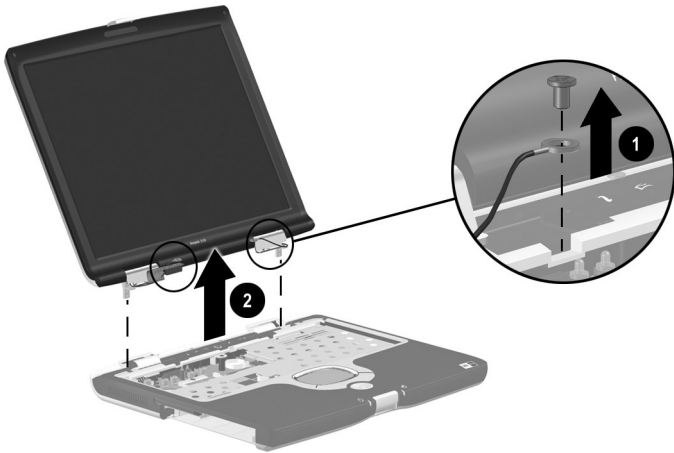

Figure 5-21. Removing the Display (Part 2)
10. Computer models with 15.1-inch displays have ground cables secured to the base enclosure by two silver PM1.5 × 5.0 screws ❶ (Figure 5-21). Remove these screws.
11. Lift the display straight up and remove it from the base enclosure ❷.